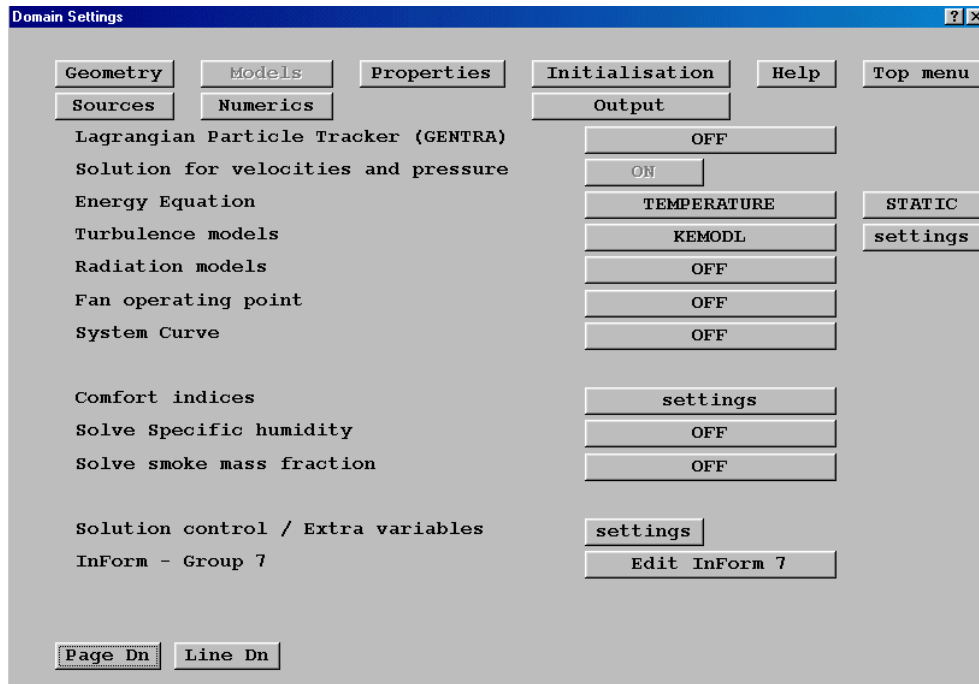

Figure 2.13 The 'Models' page of the Main Menu.
- Click on 'Models' to obtain the Model menu page shown in figure 2.13.